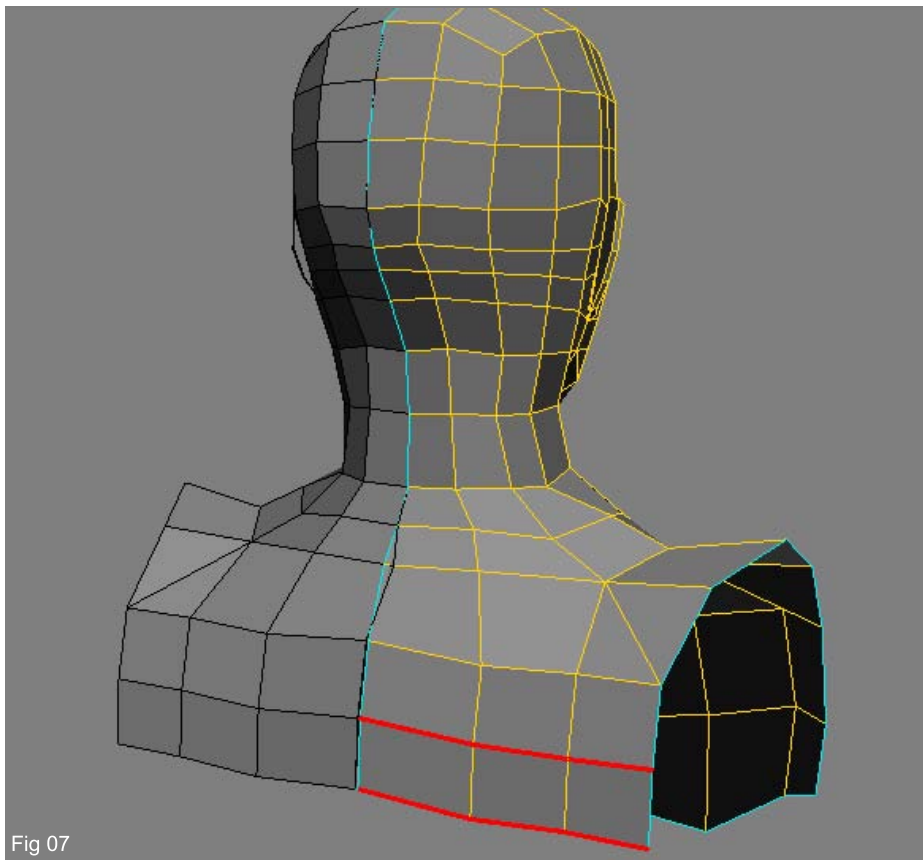

Fig 07
7. In the same way, we can extrude new polygons for the upper back (Fig07).